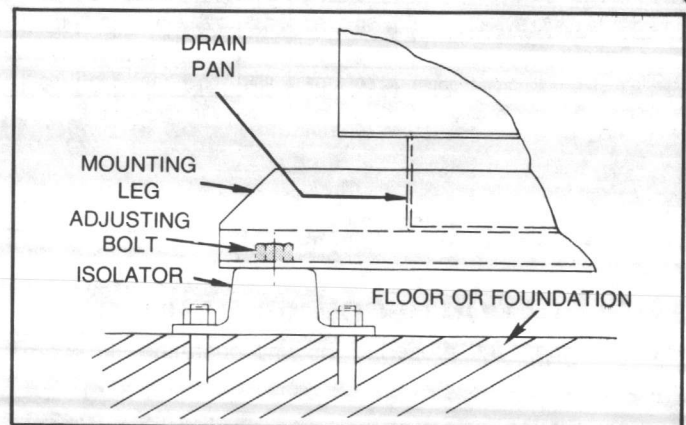

FIGURE 3 - Anchoring the Unit
Vibration isolators and isolator mounting legs, when supplied, are shipped with the unit and attached to the shipping skid. Locate the mounting legs at all corners of the unit or component section or at appropriate support sites. Fasten the isolators to the floor securely before mounting the unit. See Figure 3.
3. Anchor the isolators to the floor and mount the unit on the isolators. See Figure 3. For some applications it may be necessary to shorten the isolator adjusting bolt to properly secure unit to isolator.
3. Anchor the isolators to the floor and mount the unit on the isolators. See Figure 3. For some applications it may be necessary to shorten the adjusting bolt to properly secure unit to isolator.